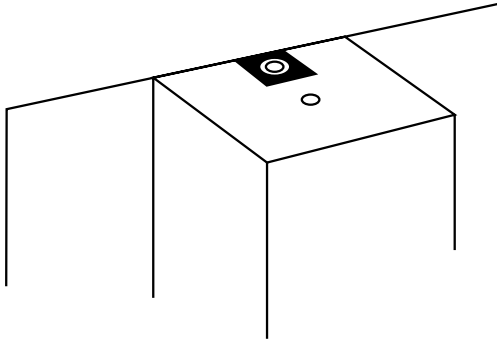

Figure 1
1. Place fixture body ① open side down.
2. Remove diffuser ② from fixture body.
3. Install by pushing threaded u-clips ⑩ into place on top and bottom flanges of body ① over 3/16" diameter holes with flat side of clips on top of fixture body. See Figure 1.